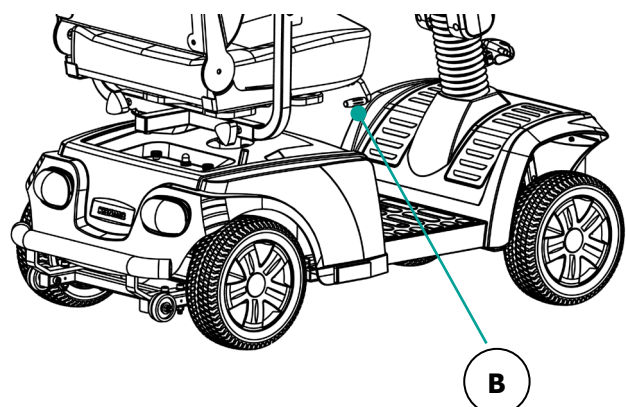

Figure 7.4
7.9.2 Lift up the slide lever (B) to move the seat forward or backward. (See Figure 7.4)